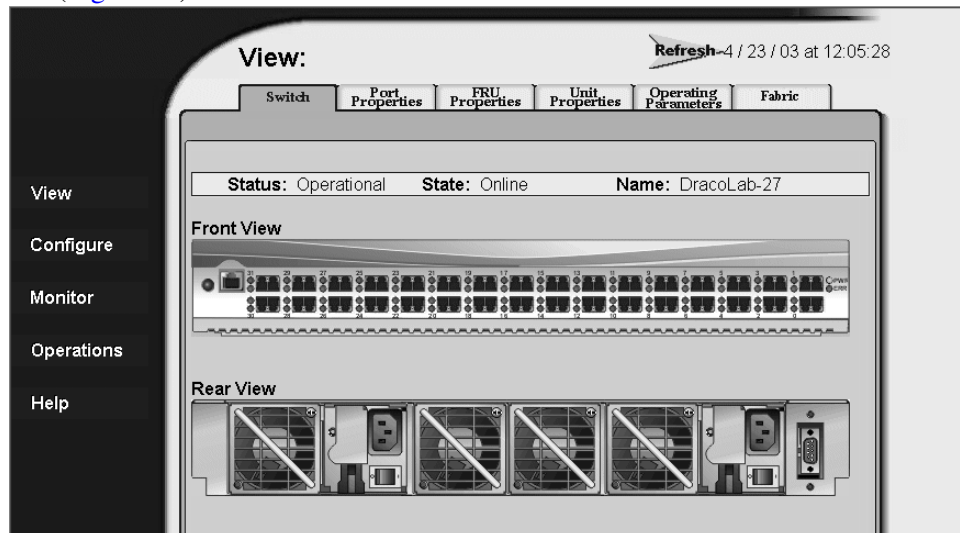

Figure 13: Embedded Web Server interface—View window
5. Click **OK**. The EWS interface opens with the View window displayed (Figure 13).